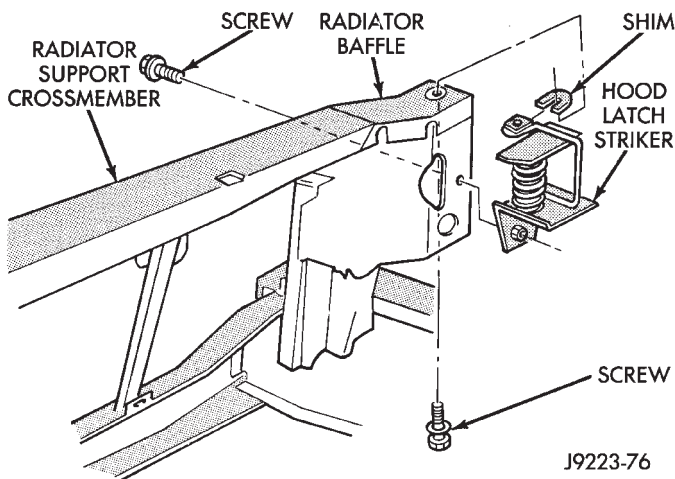

Fig. 97 Hood Latch Striker
- (3) Adjust the hood strikers (Fig. 97) with shims as necessary. Tighten the screws to 22 N·m (16 ft-lbs) torque after adjustment.
- (4) Align each latch and striker so that the striker enters latch squarely.